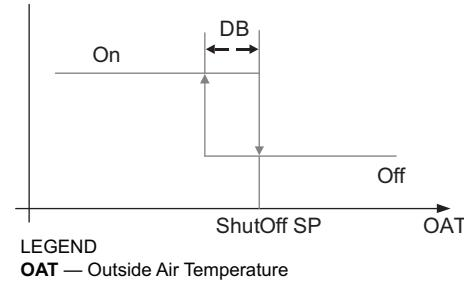

Fig. 51 — Hysteresis Settings
Hysteresis setting (DB) defaults to 2°F (−17°C). See Fig. 51.